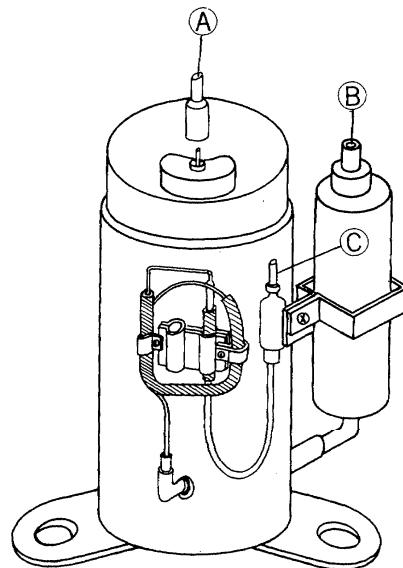

Fig. 18
- 3) For the new service compressor, tubes are attached at the three points (A), (B) and (C) to prevent entry of dirt and moisture. At the time of exchange, connect the unit tubing after removing these tubes. Fig. 18